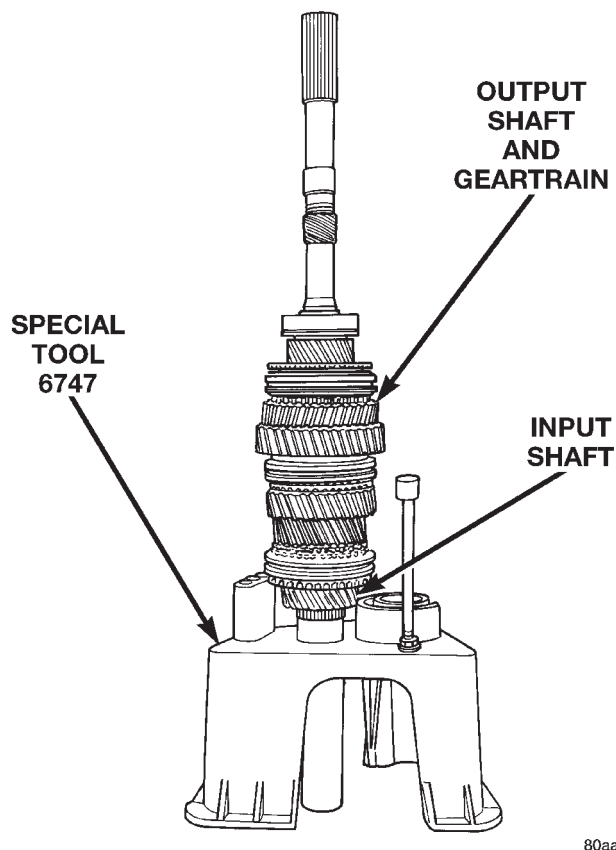

Fig. 88 Output Shaft And Geartrain Installed In Input Shaft
(6) Install assembled output shaft and geartrain in input shaft (Fig. 88). Carefully rotate output shaft until the 3-4 synchro ring seats in synchro hub and sleeve.